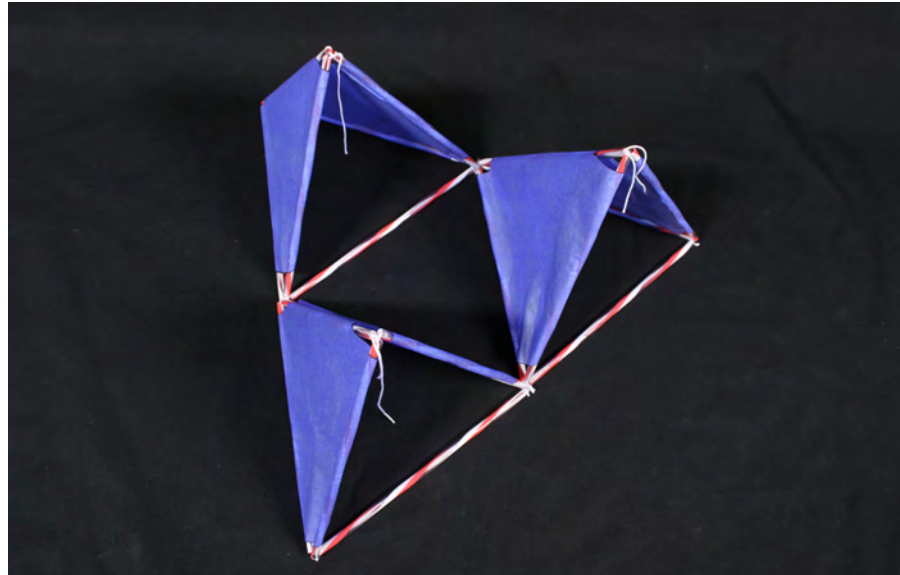

Fig. 15 Three tetrahedrons in the form of one large triangle
2. Once you have created the other two remaining tetrahedrons, select three of them and place the tetrahedrons on a flat surface or table to form one large triangle. All sides with the tissue paper should be facing away from you. See picture below (fig. 15).